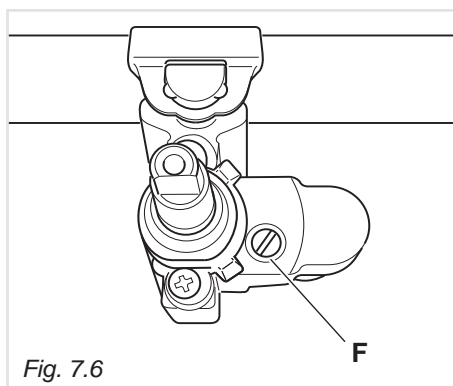

Fig. 7.6
- With a thin screwdriver turn the screw “F” until adjustment is correct (fig. 7.6).